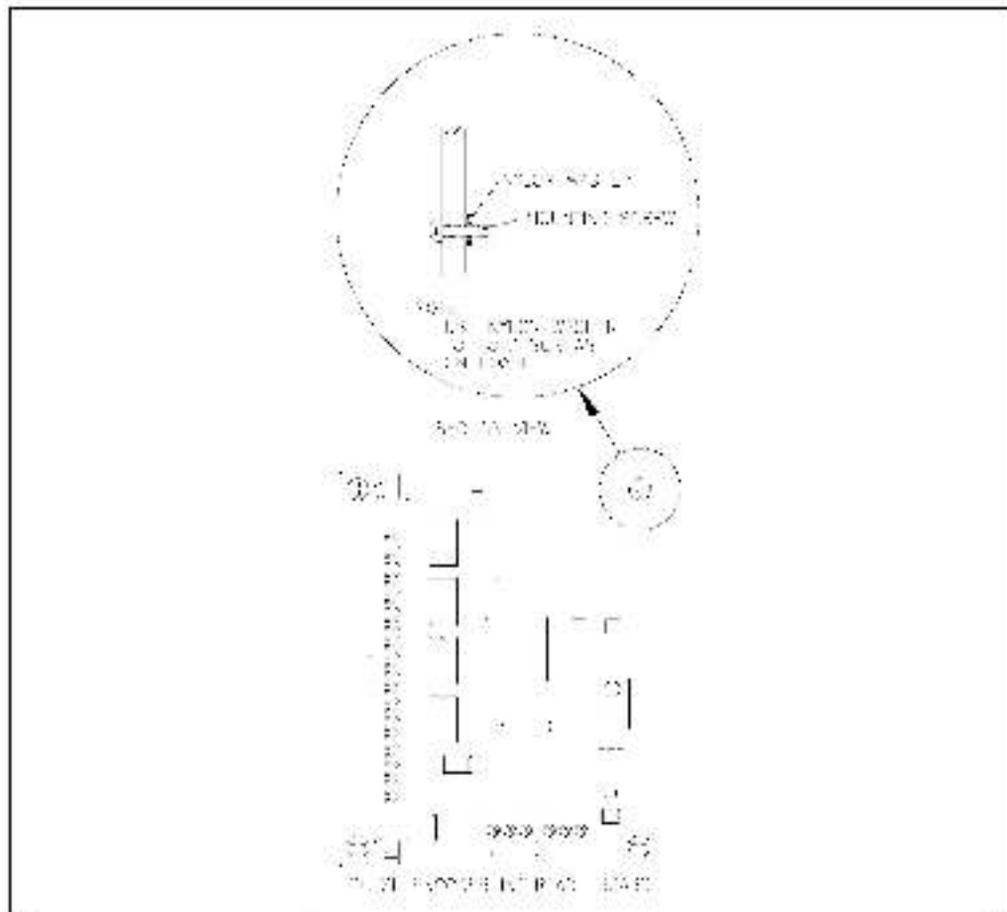

Figure 2.2 – Installing the Mounting Screws and Washers on the Pulse Encoder Interface Board
If no I/O Expansion board is mounted on the carrier, perform the following steps (refer to figures 2.2 and 2.3). If an I/O Expansion board is mounted on the carrier, skip to step 6.
- Step 2. Slide a nylon washer over the end of each mounting screw. When the Pulse Encoder Interface board is mounted, the washers are between the board and the OIM carrier's standoffs (see figure 2.2).
**If an I/O Expansion Board is mounted on the carrier, perform the following steps (refer to figures 2.2 and 2.4).**
- Step 7. Slide a nylon washer over the end of each mounting screw. When the Pulse Encoder Interface board is mounted, the washers are between the board and the I/O Expansion board's standoffs (see figure 2.2).